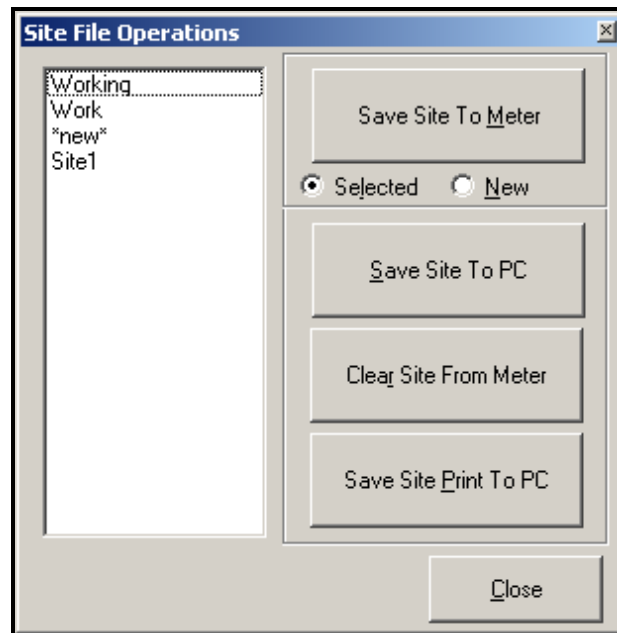

Figure 31: Site File Operations Window
To access site files, click on the *Site Files* button in the *Properties* window. The *Site File Operations* window (shown in Figure 31) opens.
3. The *Site File Selection* window (Figure 31 on page 122) opens. Highlight a site with the desired settings, and click [Open]. PanaView saves the site in the meter with the new name and the desired settings.
1. Highlight the desired site in the left pane. (See Figure 31 on page 122.)
3. The *Site File Selection* window (Figure 31 on page 122) opens. Enter the desired site name (now with a .prt suffix) and click [Save]. PanaView displays a text version of the site, as shown in Figure 34.